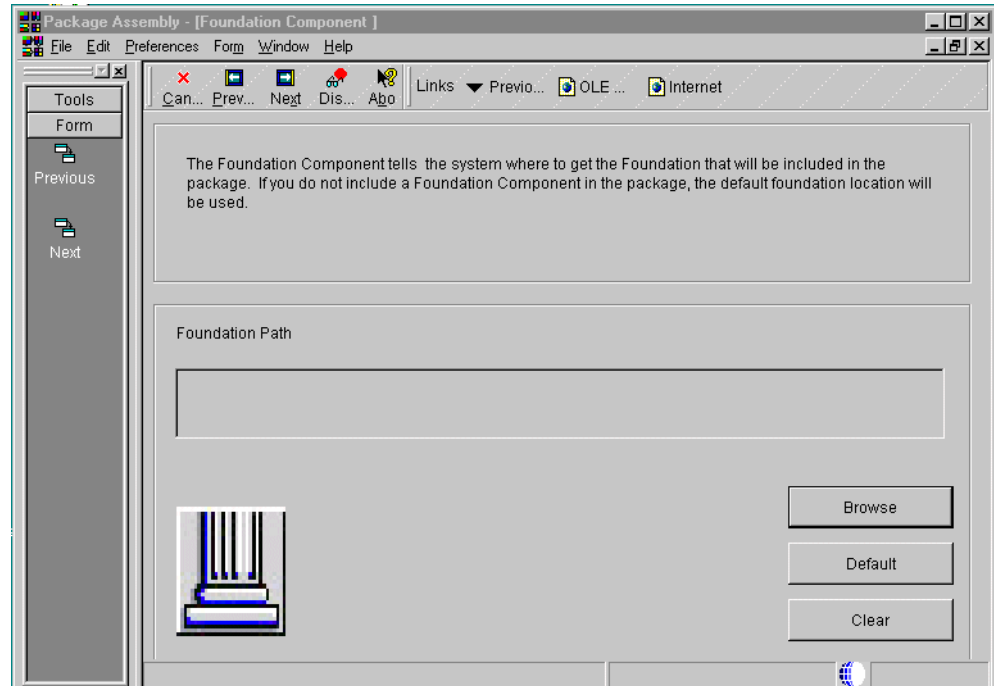

Figure 144. Foundation Component form
5. Click **Next**. The Foundation Component form appears (Figure 144).